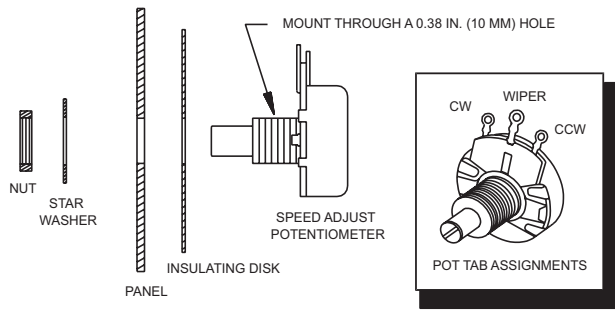

Figure 3. Speed Adjust Potentiometer
- Figure 3. Speed Adjust Potentiometer8
Mount the speed adjust potentiometer through a 0.38 in. (10 mm) hole with the hardware provided (see Figure 3 on Page 8). Install the circular insulating disk between the panel and the 10K ohm speed adjust potentiometer.